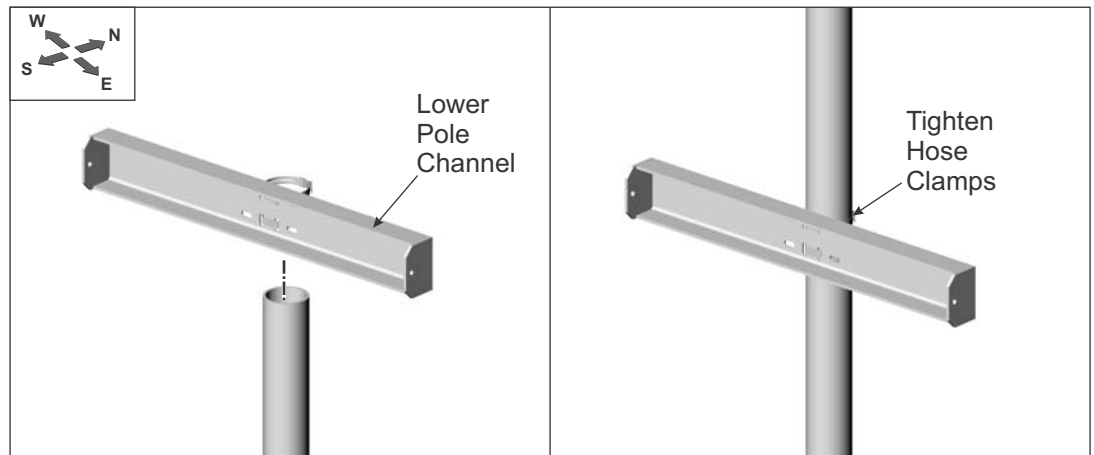

Figure 1-5: Installing Lower Pole Channel
- C. Rotate the Pole Channel so that it is facing south. (See Figure 1-5)